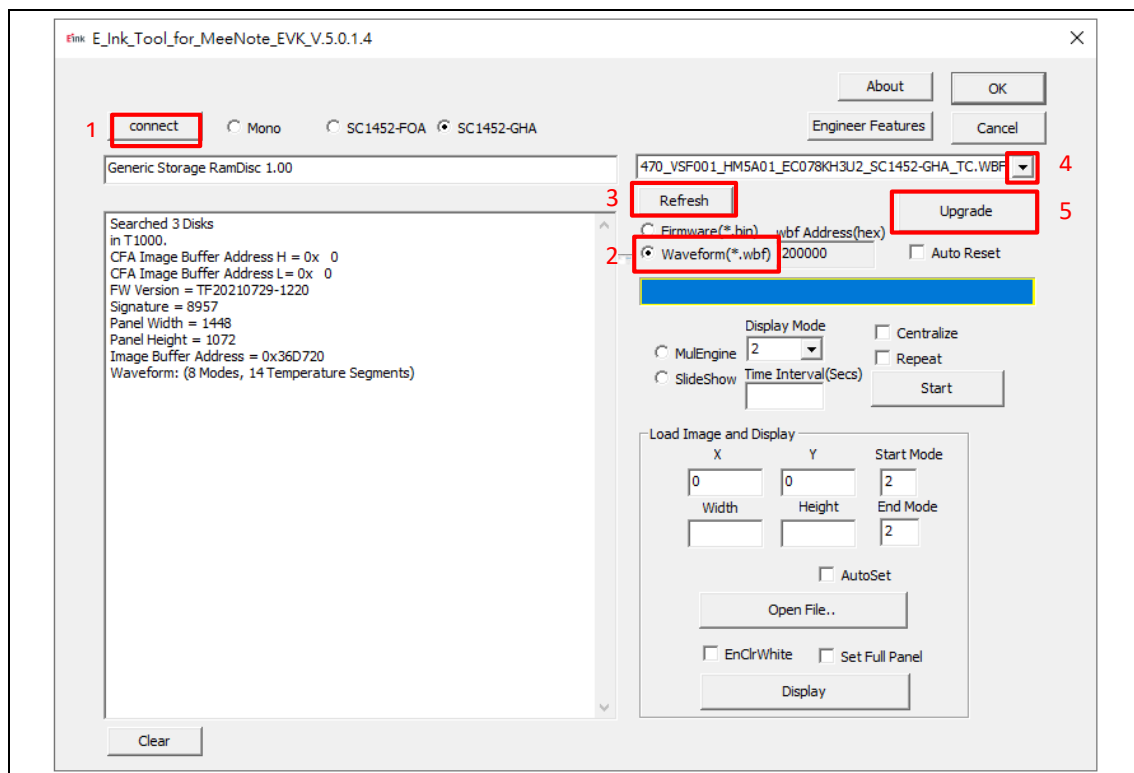

Figure 3.6
(3) How to upgrade waveform
- Execute E_Ink_Tool_for_MeeNote_EVK_V5.0.1.4.exe (refer to Figure 3.6)